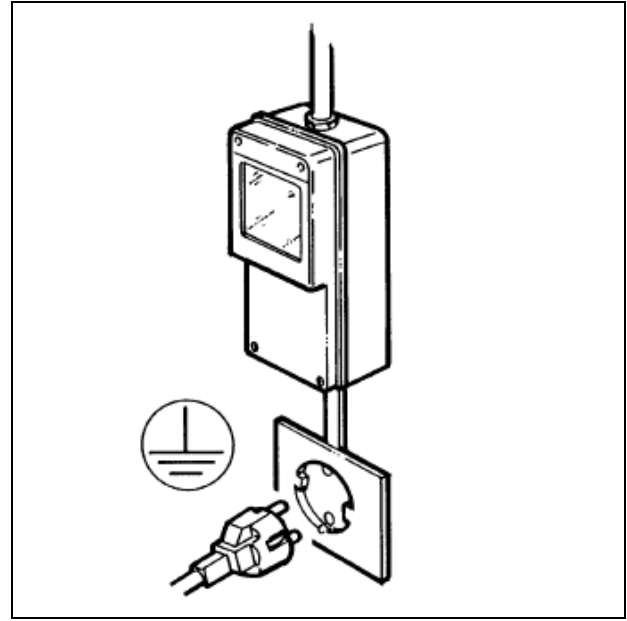

Fig. 15
- The machine's electrical safety is only guaranteed when it is connected to a suitable earth system, structured as provided by the national safety current regulations (fig.15). Therefore, the manufacturer cannot be held responsible for any damage due to failure of the grounding system of the machine.
- For a safe and correct installation, it is essential to provide a suitable socket controlled by a thermal cut-out switch whose contacts are at least 3 mm apart, in accordance with the current national safety regulations (see fig.15).